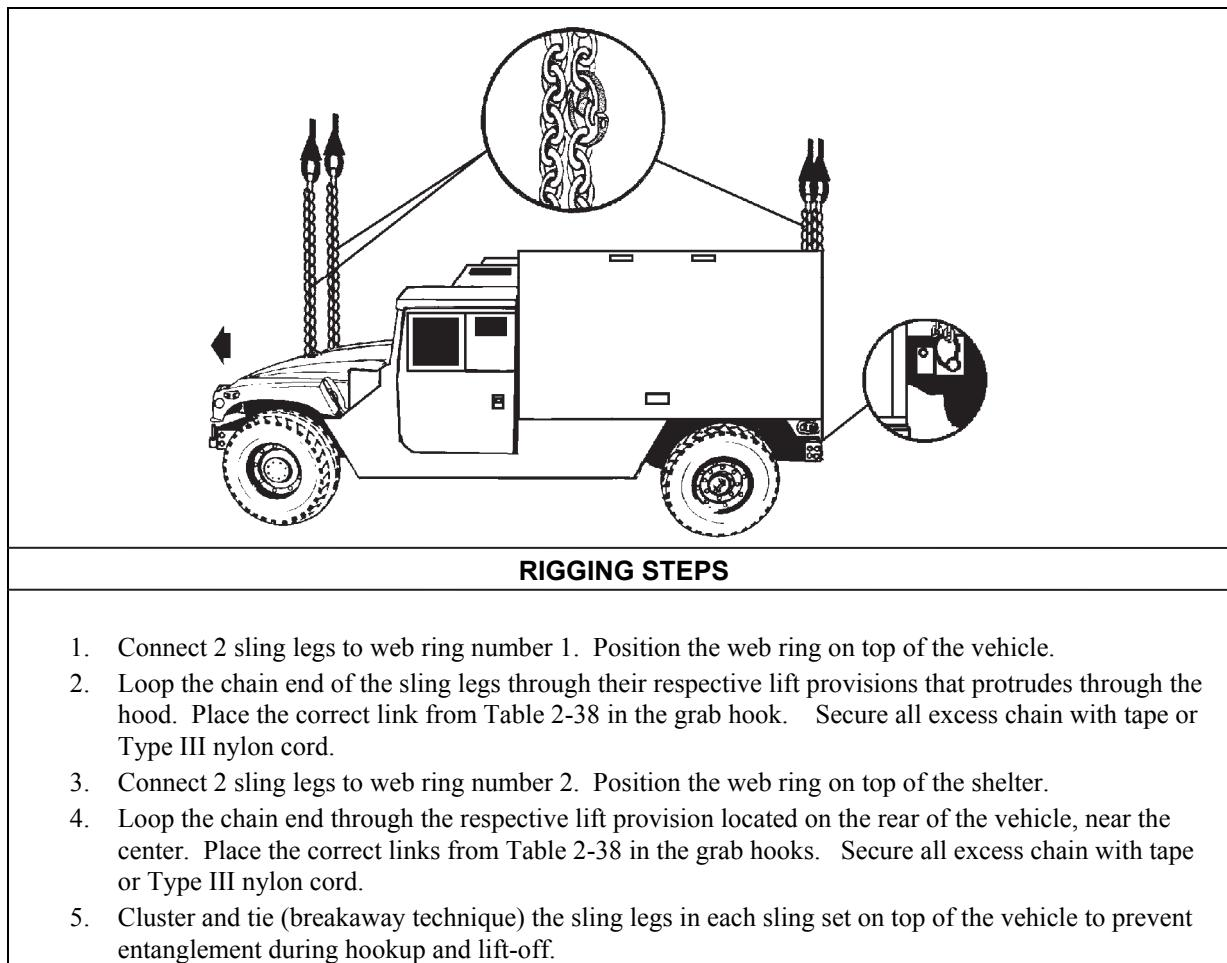

Figure 2-37. M1123 Cargo/Troop Carrier with Marine Armor Kit, Fully Armored Troop Section
- **Rigging.** Rig the load according to the steps in Figure 2-37.